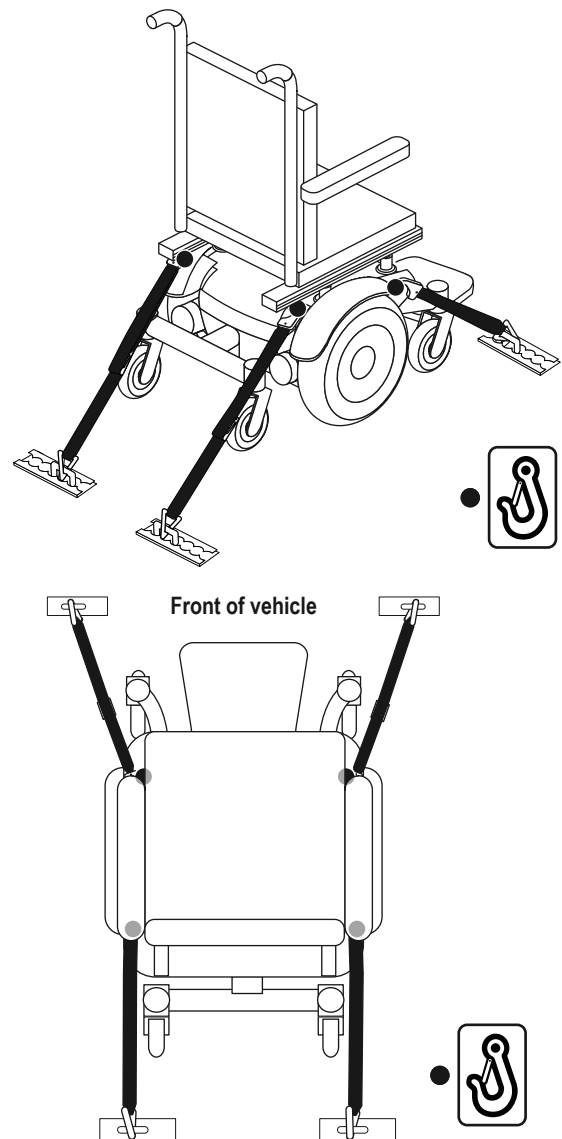

Figure 7. Unoccupied Transit System Securement Points
- Position the anchor point for the rear tie-down straps directly behind the rear securement points on the power chair. The front tie-down straps should be anchored to floor points that are spaced wider than the power chair to provide increased stability. **See figure 7.**